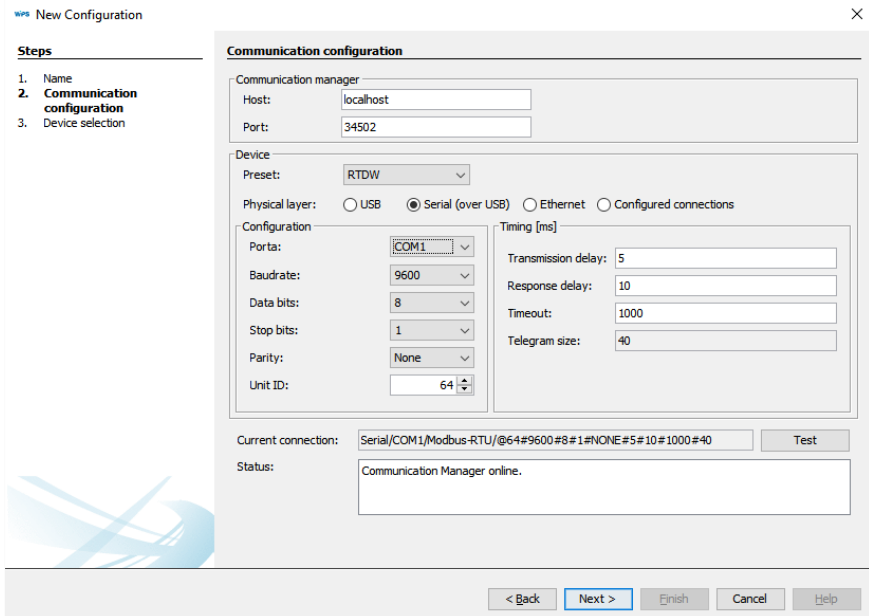

Figure 6.35: Communication settings
- Fill in the "Configuration name" and "Resource name" fields, define the location where the information will be saved and proceed to the next step, as shown in Figure 6.35 on page 6-42.